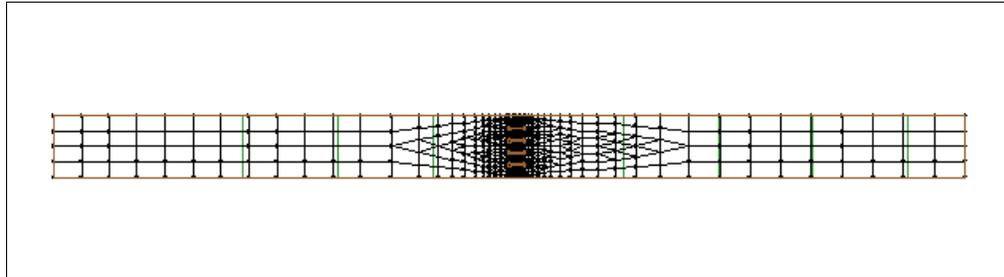

Figure 11.1 The mesh contained in the file *proto.2dm*.
2. Find and highlight the file *proto.2dm*. If you still have geometry data open from a previous tutorial, you will be warned that all existing mesh data will be deleted. If this happens, click *OK* to the prompt. The geometry data will open as shown in Figure 11.1.